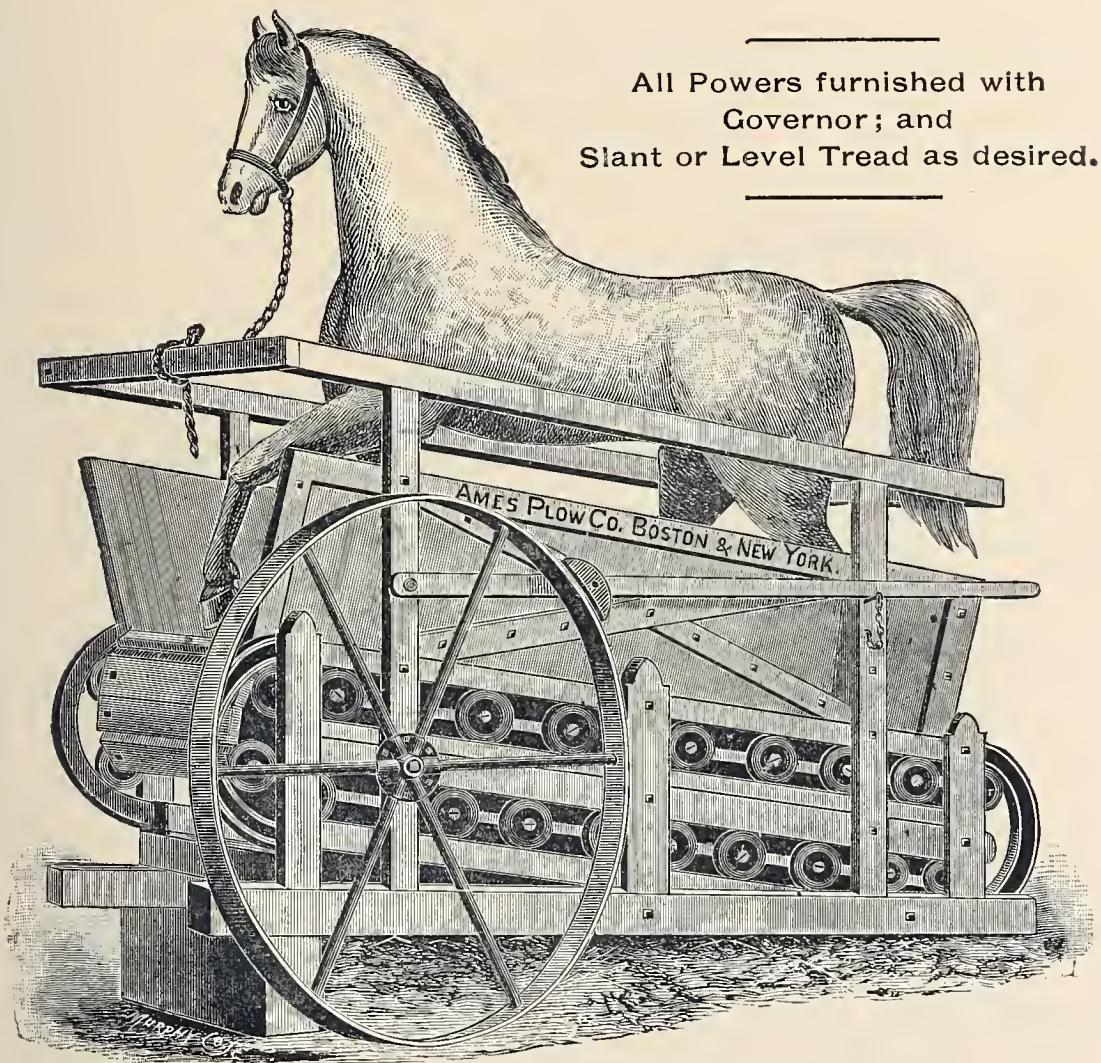

Fig. 395. — Union Horse-Power, One Horse.
*The Union Railway Horse-Power*, represented by *Fig. 395*, one horse, and *396*, two horse, has the wood framework constructed similar to most of the tread, or endless, chain-powers in use, but much heavier and more durable in all its parts; and